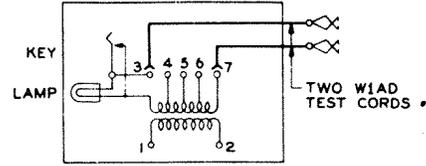

Fig. 3 - Schematic Circuit of No. 73A Test Set
3.02 A schematic of the circuit of the test set is shown in Fig. 3. It will be noted that a lamp is connected in series between the transformer and terminal 3 of the set and that a key is provided to short-circuit the lamp. Their functions are explained below.